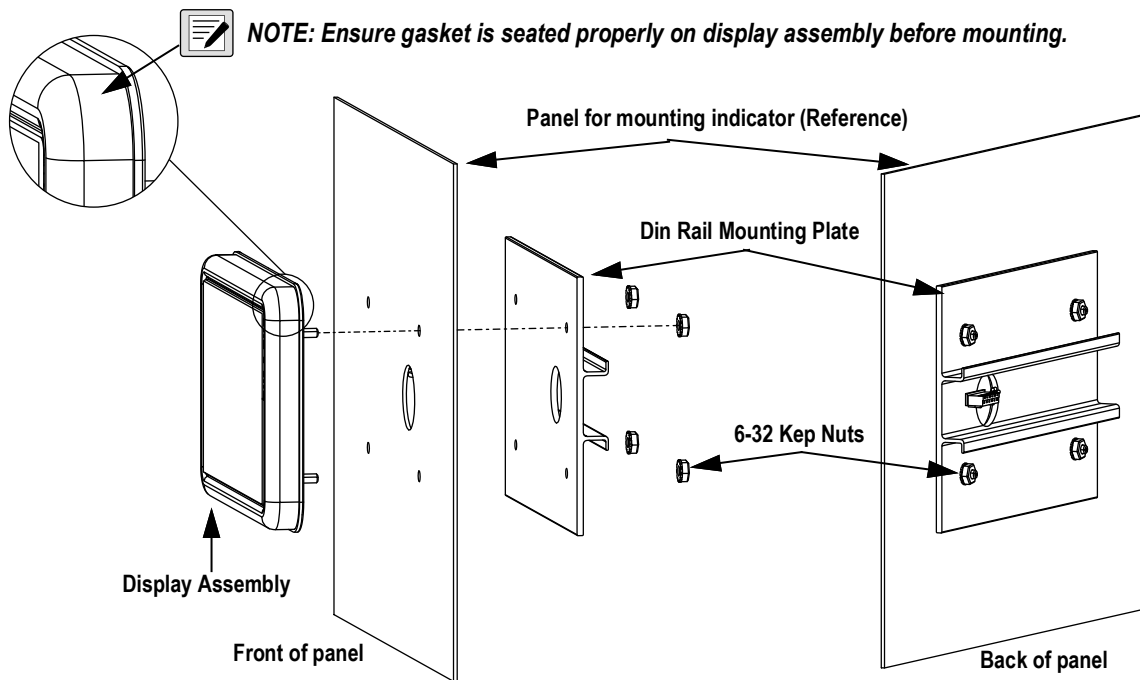

Figure 2-3. Mounting Display Assembly
3. Loosen and remove the four keps nuts securing the DIN rail and display assembly to the panel, see Figure 2-3 on page 21.